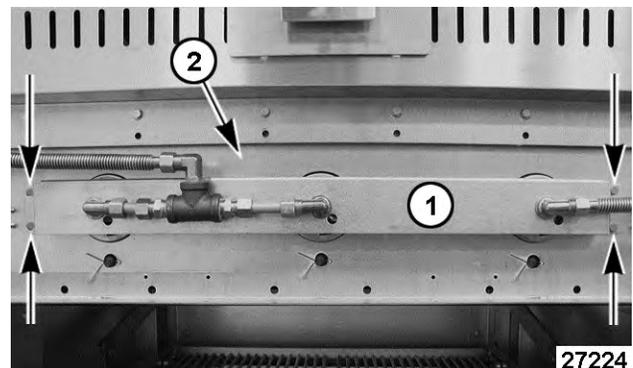

Fig. 14
6. Remove screws securing manifold bracket [1] Fig. 14 to burner support [2] Fig. 14. Allow bracket to drop down out of the way.